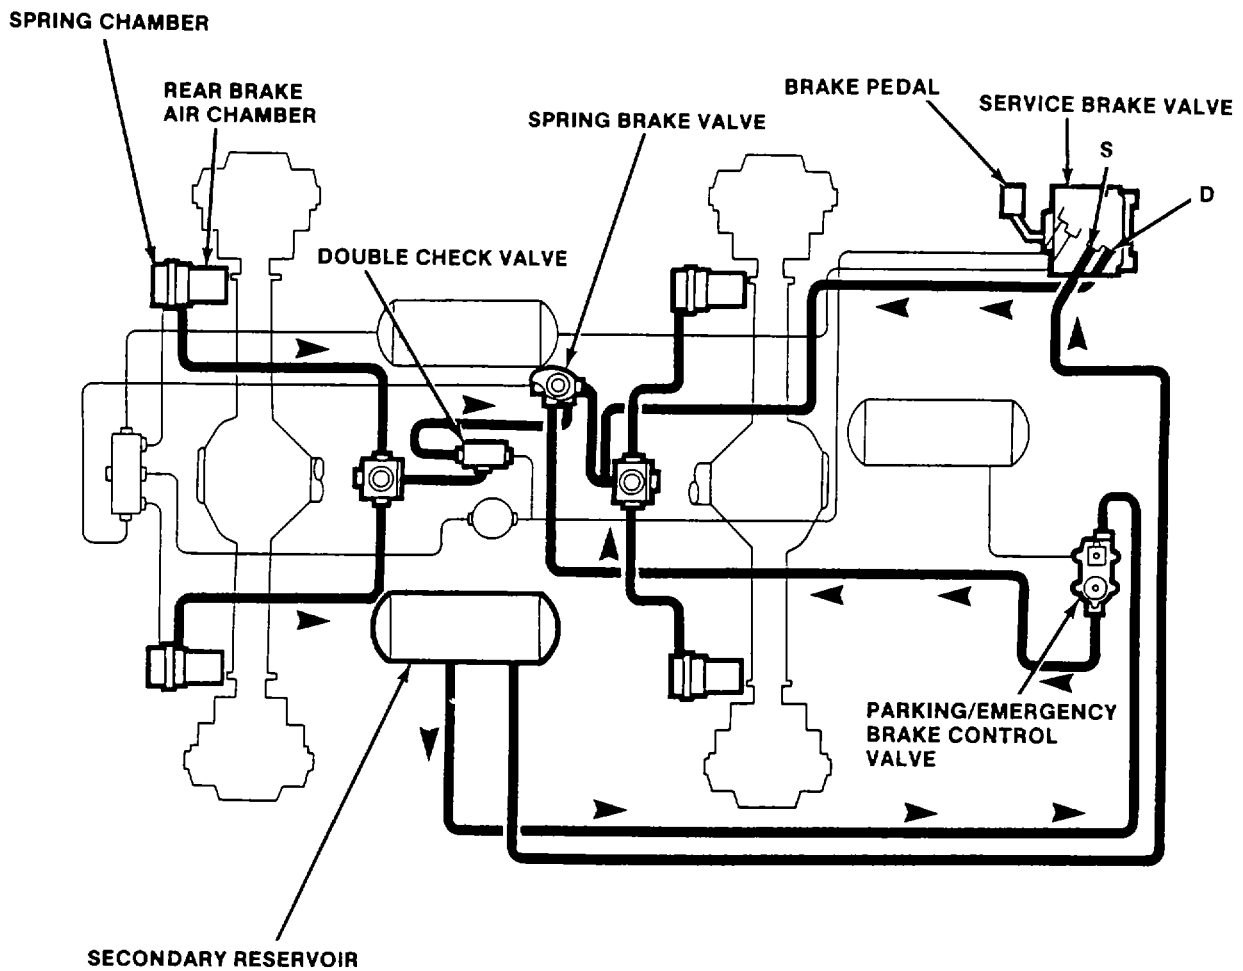

Figure 1-32. Rear Brake System - Secondary Air Only
(5) If the primary system becomes depleted of air, the secondary system is indirectly used to apply the rear brakes. The shift from primary to secondary air is automatic and carried out in the spring brake valve when the brakes are applied.
(6) Normally, primary air pressure, supplied via the relay valve, keeps the secondary (control) air supply port in the spring brake valve closed. This action keeps the valve function neutral.
(7) With no primary air available, secondary air pressure causes the spring brake to partially close and reduce the air pressure that keeps the parking brakes disengaged, (see fig. 1-32). When this occurs, the quick release valve automatically opens and momentarily vents the air chambers to the atmosphere. The reduction in pressure in the air chambers is proportional to the secondary air pressure applied to the spring brake valve.